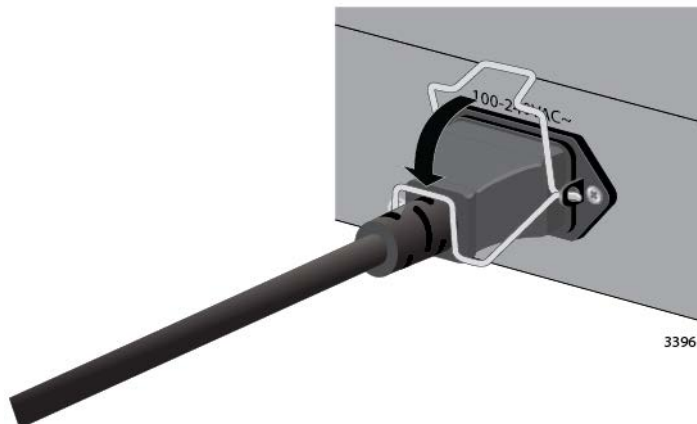

Figure 62. Lowering the Power Cord Retaining Clip
3. Lower the power cord retaining clip to secure the cord to the switch. Refer to Figure 62.